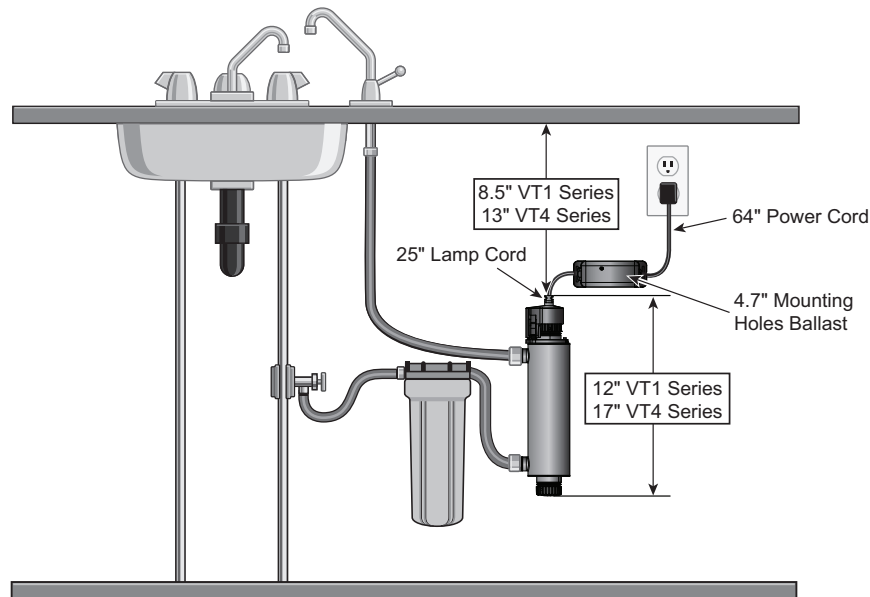

Figure 3 Typical Installation
1. Figure 3 shows the installation of a typical point of use (POU) system and the related components that may be used for the installation. The use of a by-pass assembly is recommended in case the system requires off-line maintenance. In this case, note the system requires a supplementary disinfectant for the distribution system if any water is used during by-pass condition. In addition, during by-pass, the water will NOT be treated as a “DO NOT CONSUME THE WATER” tag should be physically installed on the by-pass assembly until such time as the system is sanitized and returned to service. For more information, refer to Section 3.2. If the water is to be consumed while the system is off-line, the water must be boiled for two minutes prior to consumption.